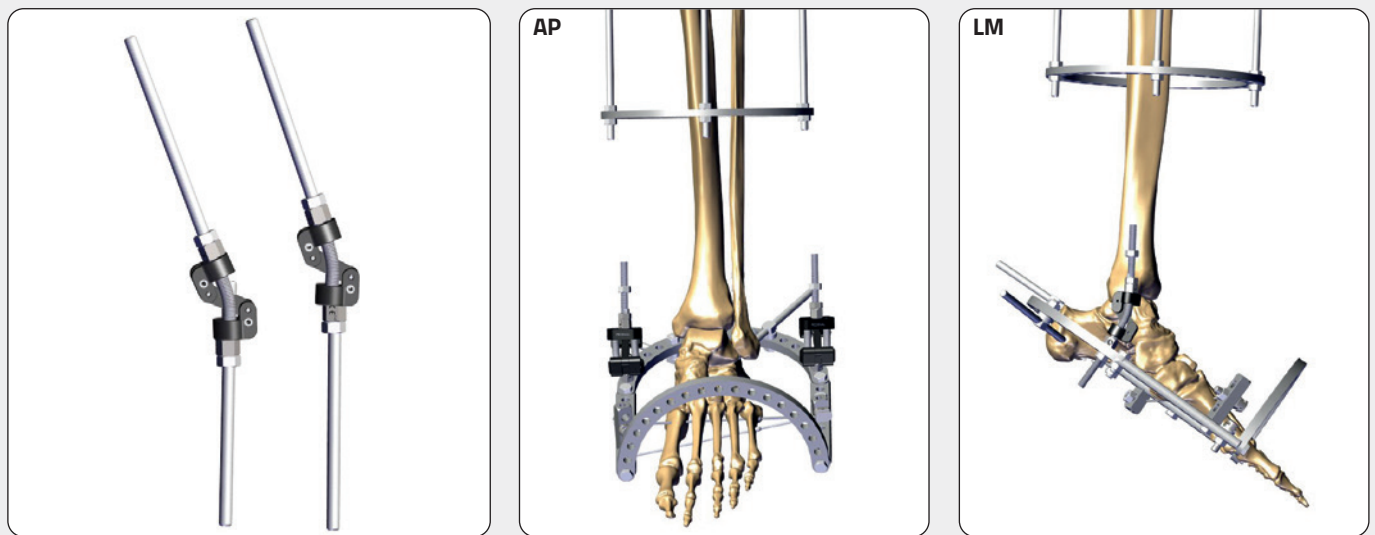

Fig. 3
- Attach the foot frame to the distal ends of the Tornado Hinges and apply fixation to the foot **Fig. 3**.
- Attach the hinges to the foot plate as shown in **Fig. 3**. Ensuring that the long axis of the hinge is aligned to the anatomical axis of the tibia with the central area of the spring overlaying the axis of rotation of the ankle.